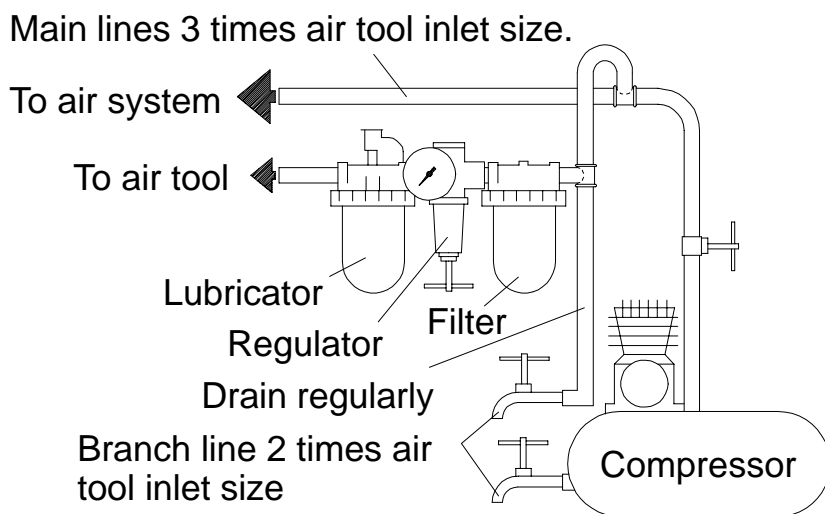

Figure 4
- Be sure all hoses and fittings are the correct size and are tightly secured. See Figure 4, on page 6, for a typical piping arrangement.
The filter removes dust and moisture. Be sure all hoses and fittings are the correct size and are tightly secured. See Figure 4 for a typical piping arrangement.